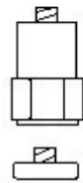

Fig. 3
5. If the surface material of measuring article is the ferrous material, connect " Vibration sensor " (3-13, Fig. 1) with the " Magnetic base " (3-14), refer Fig. 3.